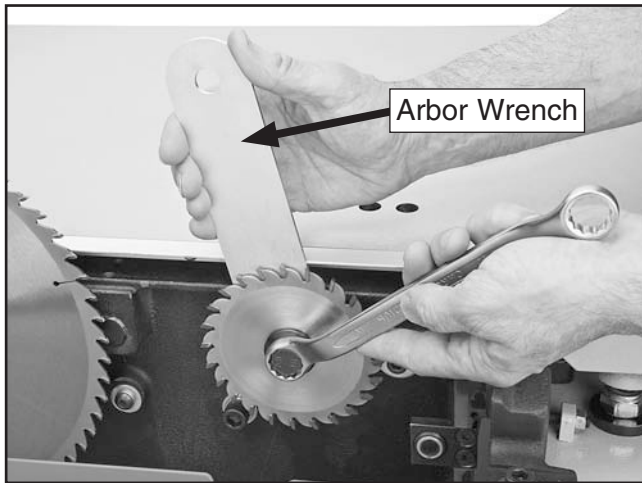

Figure 18. Tightening the scoring blade arbor nut.
- To make sure the scoring blade arbor nut is fully tightened, hold the arbor wrench on the arbor behind the blade and use the wrench on the nut to tighten it clockwise, as shown in **Figure 18**.